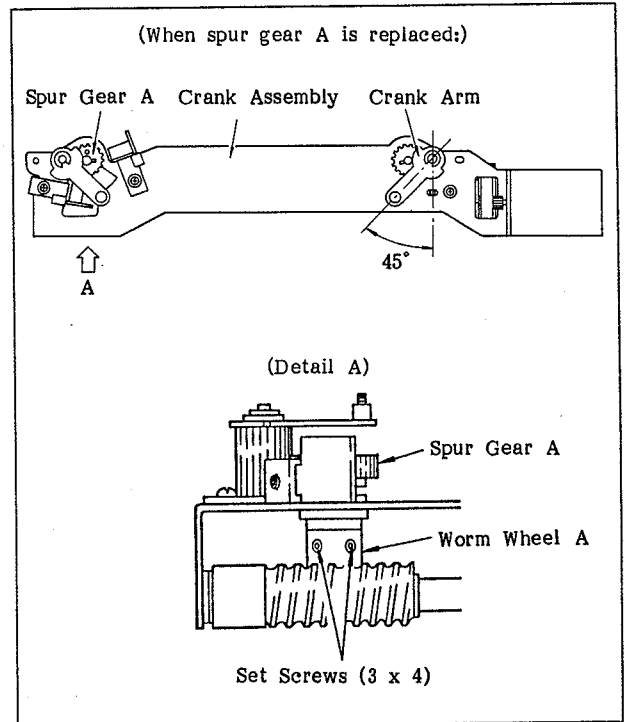

Fig. 6-40 Replacing Spur Gear A
5. Replace spur gear (A or B) with a new one, and then turn the crank arm in the direction of the arrow shown in the drawing (Figure 6-40 in case of spur gear A, or Figure 6-41 in case of spur gear B). Assemble the components so that the two tap holes of worm wheel (A or B) are in the positions as shown in the figures.